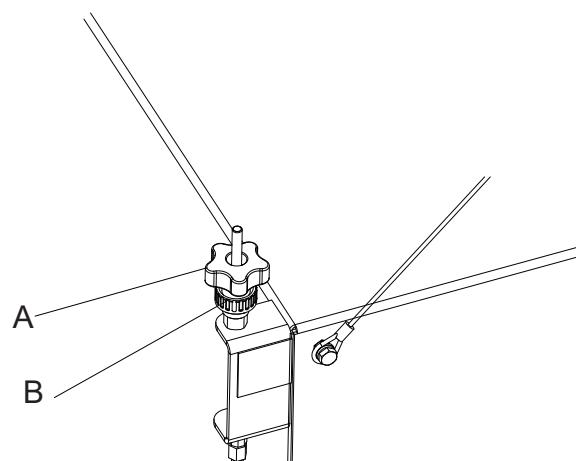

Figure2
- 4) Loosen the knob (A, Fig. 2) on the left side of the machine.
- 5) Turn the knob (B, Fig. 2) and remind that: